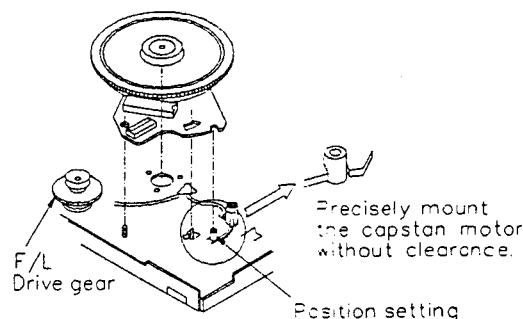

Fig. 4-16-4
7. First, position the capstan motor so that its direction matches to its receptacle as shown in the Fig. 4-16-4 and then mount the motor from the rear side of the deck, taking care not to damage the shaft, motor, etc. Particularly take care not to damage the F/L drive gear.